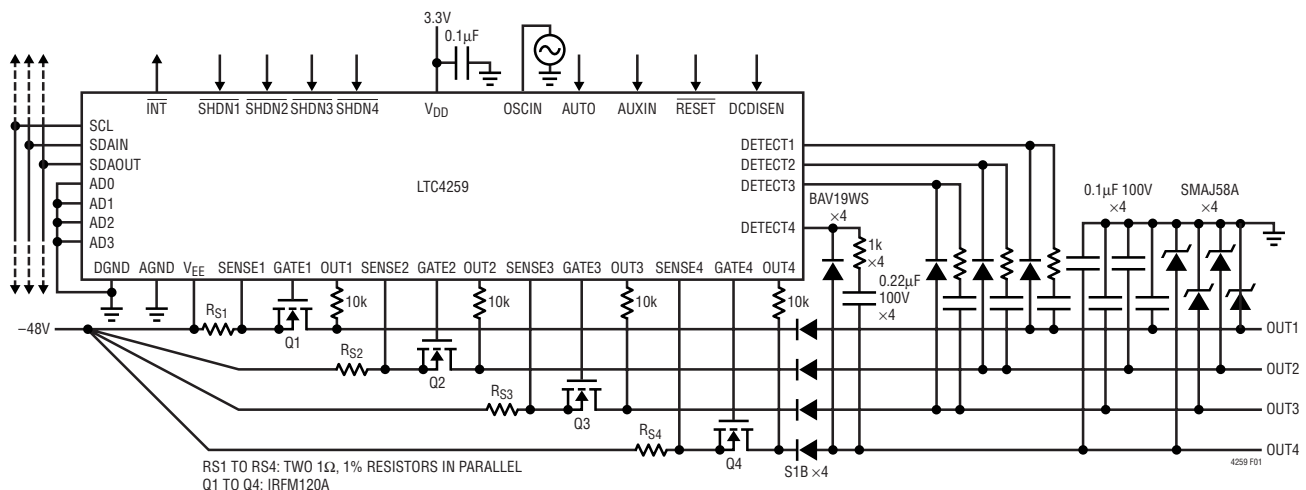

Figure 1. Complete 4-Port Powered Ethernet Power Source
The LTC[®]4259 is a quad –48V Hot Swap™ controller designed for use in IEEE 802.3af compliant Power Sourcing Equipment (PSE). It consists of four independent channels, each with inrush control, short-circuit protection, complete powered device (PD) detection and classification capability, and programmable PD disconnect using AC or DC sensing. Used with power MOSFETs and passives, as in Figure 1, the LTC4259 can implement a complete IEEE 802.3af compliant PSE.